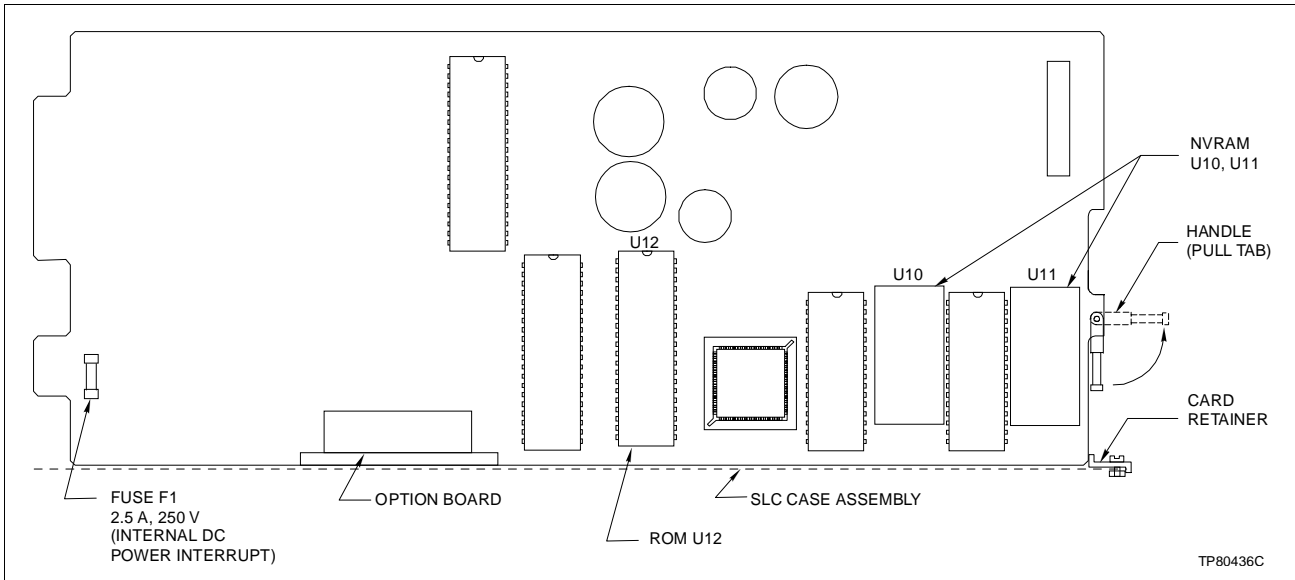

Figure 8-2. Removing the Main Board
3. Loosen screw and remove the card retainer. Use the handle (pull tab) and remove the main board from the controller housing (Fig. 8-2).
3. Loosen screw and remove the card retainer. Use the handle (pull tab) to remove the main board assembly from the housing (Fig. 8-2).
4. If necessary, replace F1 on the main board (Fig. 8-2) with a 2.5 A, 250 V fuse.
3. Loosen screw and remove the card retainer. Using the handle (pull tab), remove the main board from the controller housing (Fig. 8-2).
1. The NVRAM (Fig. 8-2) from the faulty main board can be removed and installed on the new main board. This eliminates the need to configure the new board, providing main board failure is not due to or has not caused NVRAM corruption. If the NVRAM is replaced, refer to **Ambient Temperature** in Section 3 and enter the ambient temperature at the wiring terminals.
2. If necessary to replace ROM U12, refer to Figure 8-2 for the location.